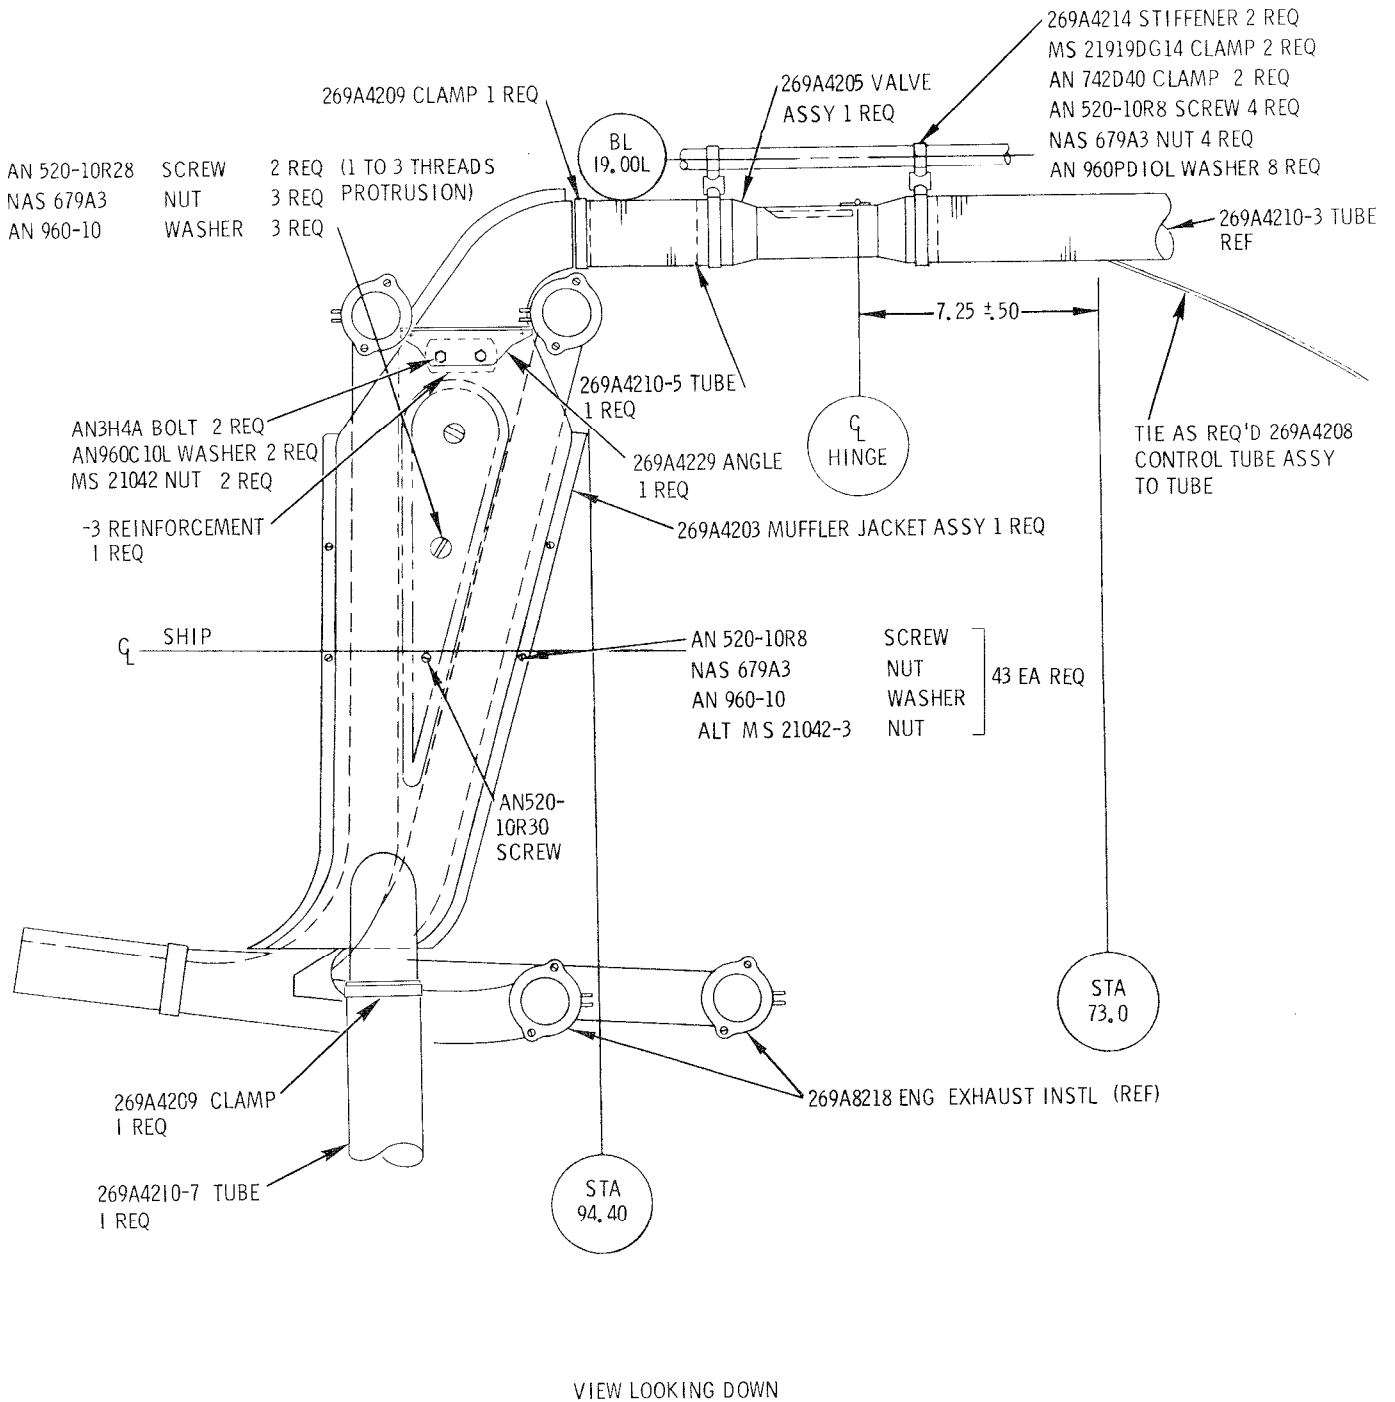

Figure 1. Heater Muffler Jacket Installation
- a. Loosen 4209 clamps and remove 4210-5 tube and 4210-7 tube from muffler jacket assembly. (See Figure 1)